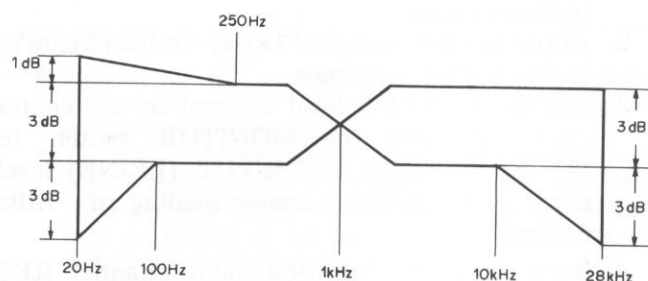

Fig. 9-3 REC/PB frequency response adjustment
4. Without changing the INPUT (LINE) level control, drop the input level by 20dB by attenuator, and record the 1kHz portion and all the other frequencies indicated in Fig. 9-3 onto the STD-502 test tape. Then set the MONITOR switch to the TAPE position, and check that the level differences between the 1kHz playback output level and the playback output levels at all other frequencies satisfy the specified ratings. If the output levels fail to satisfy the specifications, adjust L905 (L ch) and L906 (R ch).